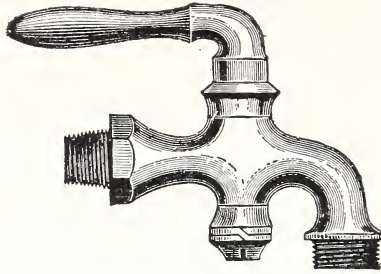

FIGURE 45.—*Ground-key faucet.*
*Ground-key.*—The ground-key faucet has a tapered cylindrical brass plunger or plug which should fit snugly into a sleeve, bored vertically through the body of the faucet (see fig. 45). The plunger, which is rotated by a handle, has a hole or slot bored horizontally through it, to coincide with a similarly shaped horizontal opening in the body of the faucet. When the handle that rotates the plunger is parallel to the body of the faucet, the two openings are in line with each other and allow the water to pass through. A short turn of the handle to the right or left throws the opening out of line and cuts off the flow.